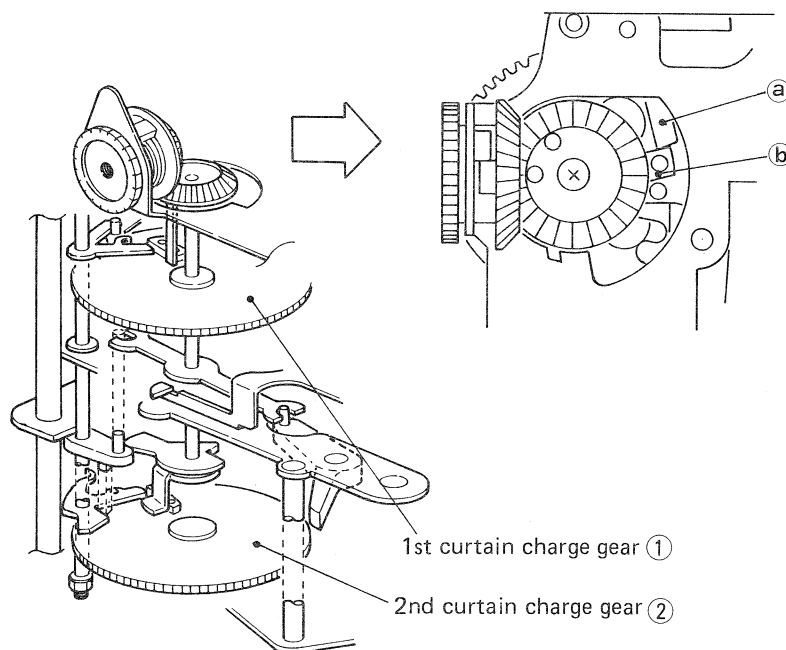

Fig. 54
1. Turn (1) 2nd curtain charge gear (Fig. 54) of shutter mechanism unit clockwise by the finger and hook stopper pin (a) on 2nd curtain charge start claw (b) to select set conditions. Then, hook 1st curtain charge gear (2) on 1st curtain brake (Fig. 54) to select release conditions.